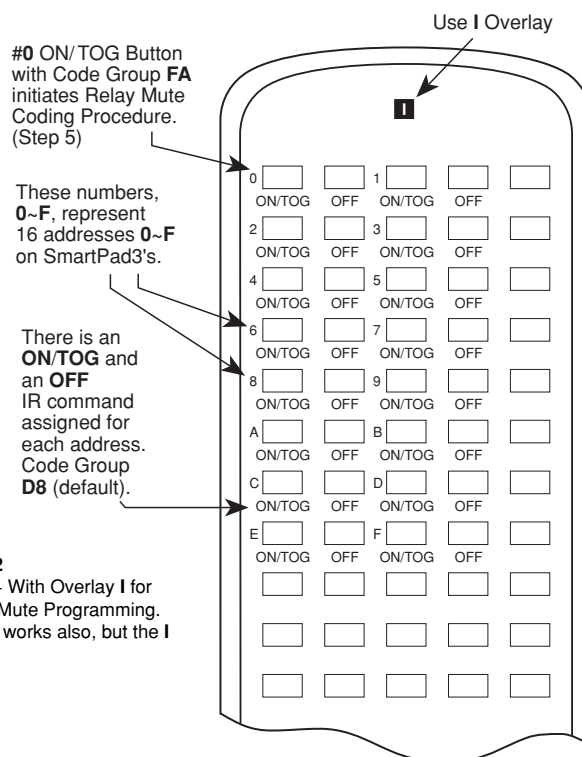

Fig. 22
5. Direct the RC68 toward the IR receiver and **press it's upper left-most key**. See **Fig. 22**.
It will **also** respond, over the IR network, to the **#0 ON/TOG** and **OFF** IR commands from the RC68+ (or RC68) set to the default Code Group **D8**. Refer to Figs. 22 & 23.
- Pressing the **#0 ON/TOG** IR command on the RC68 should cause the Relay to **MUTE ON** (if OFF). Pressing the **#0 OFF** button should cause the Relay to **MUTE OFF** (if ON). Refer to Fig. 22.
Also, test each unique IR command from the RC68 (refer to steps 9, 10 and **Fig. 22**) to see that each keypad's relay responds individually and correctly.